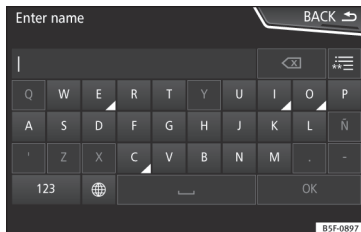

Fig. 190 Search window.
- Enter the name of the contact you are looking for in the window >>> Fig. 190. While the characters are being entered, a contact is displayed in the input field.